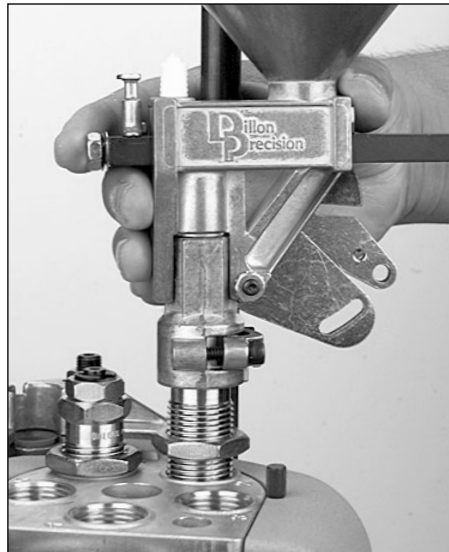

FIG 92
5. Remove the lid and the protective cardboard tube from the powder measure and place it onto the powder die **FIG 92**. Turn down the two clamp screws until they are snug. Then loosen them slightly. The measure should move freely atop the die.